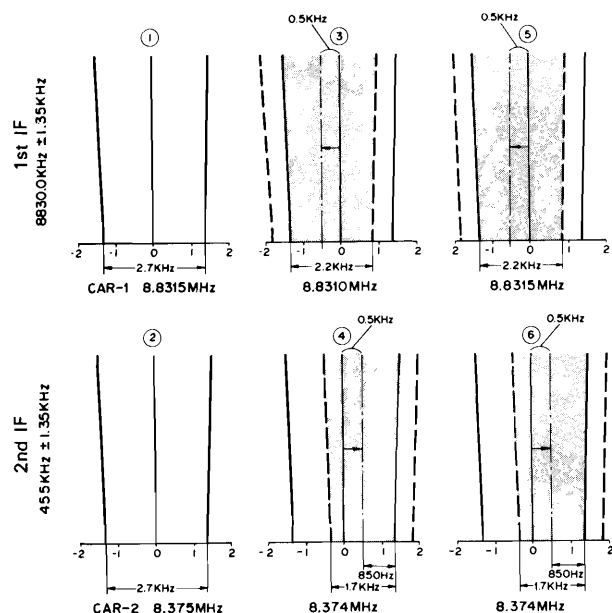

Fig. 8 VBT.IF SHIFT
(22831.0 kHz—14001.5 kHz = 8829.5 kHz) Since the frequency characteristic of the first IF filter is 8.830 MHz \pm 1.35 kHz as noted above, frequency components are cut in the lower side band by 500 Hz more than in the normal state, as illustrated in Fig. 8 (3). The second intermediate frequency generated in the second mixer is 455.5 kHz \pm 1.35 kHz.